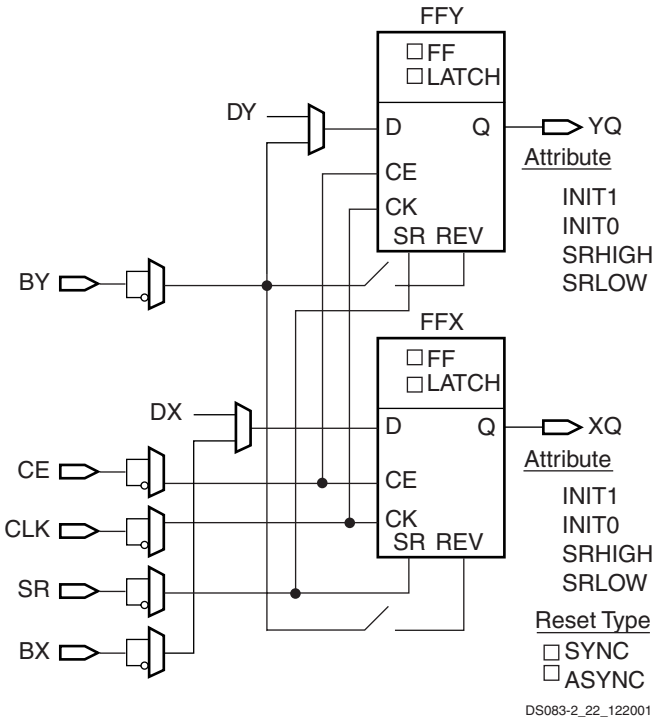

Figure 25: Register / Latch Configuration in a Slice
In addition to clock (CK) and clock enable (CE) signals, each slice has set and reset signals (SR and BY slice inputs). SR forces the storage element into the state specified by the attribute SRHIGH or SRLow. SRHIGH forces a logic 1 when SR is asserted. SRLow forces a logic 0. When SR is used, an optional second input (BY) forces the storage element into the opposite state via the REV pin. The reset condition is predominant over the set condition. (See Figure 25.)